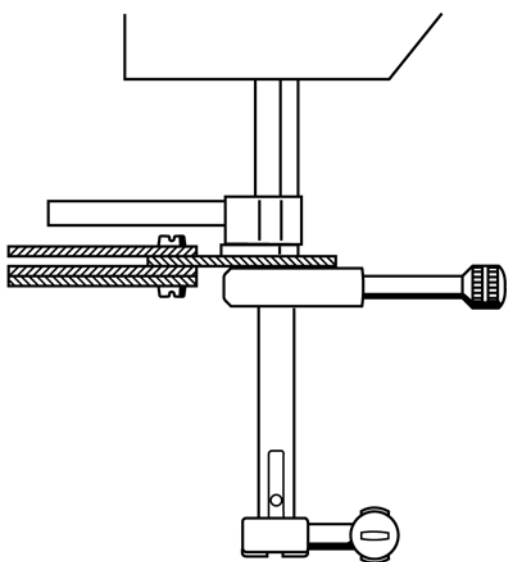

Fig. 7
- Tighten the milled screw of the needle-rise clamp (fig. 7).